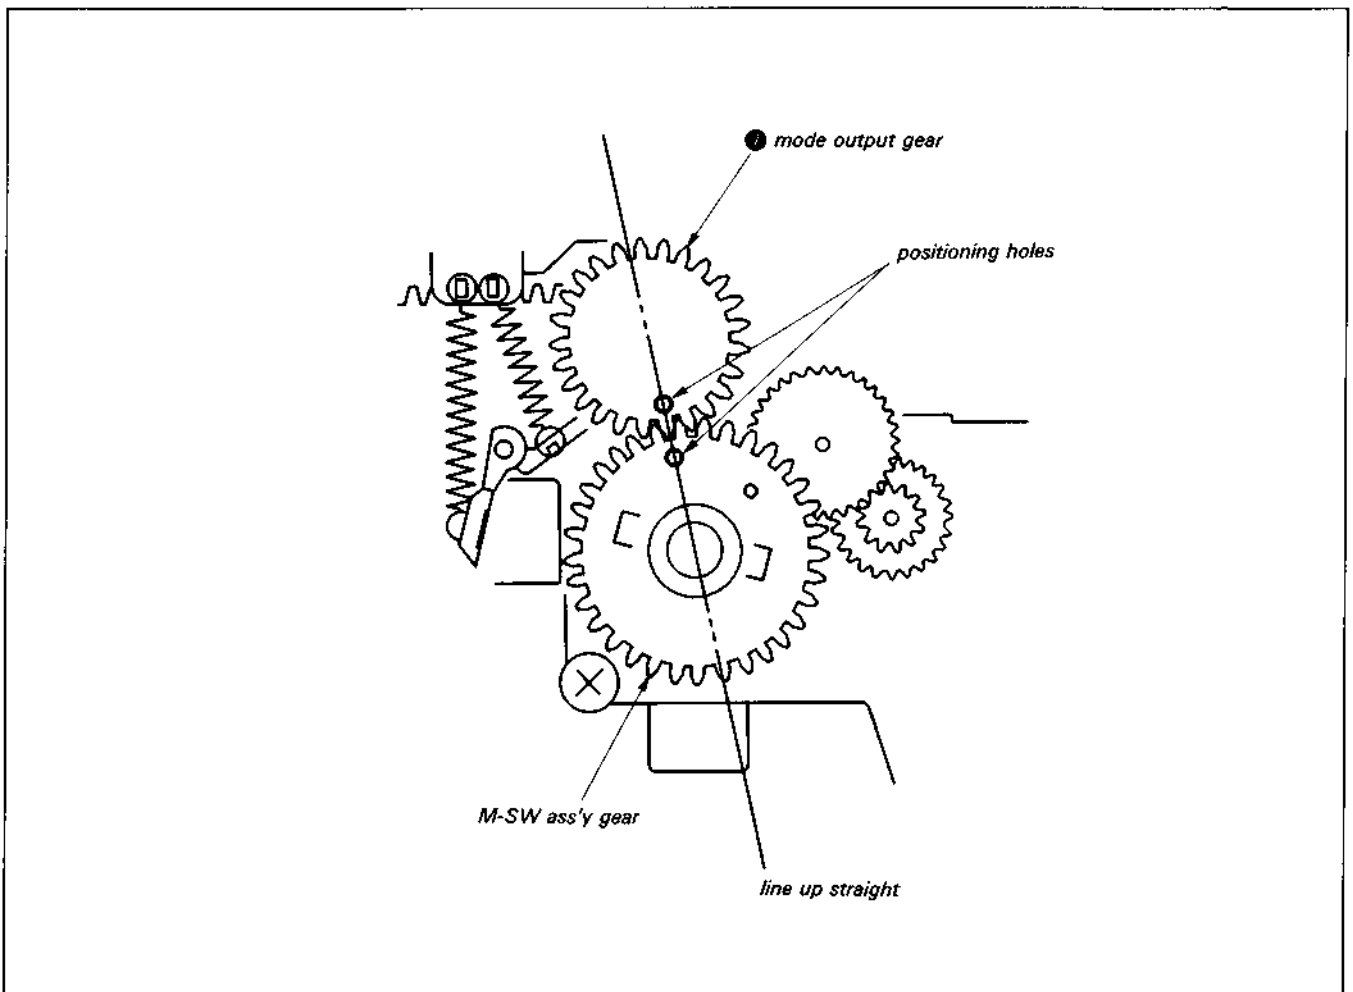

Fig. 7-39.
- 8) Mount the mode output gear ⑩ so that the positioning holes are lined up. (See Fig. 7-39.)
- 9) Mount stopper washer ⑪.
- 11) Mount B release arm ⑫ and tension spring ⑬.
- 13) Mount the LD-1 board ⑭.
- 14) Mount drive gear B assembly ⑮ and stopper washer ⑯.